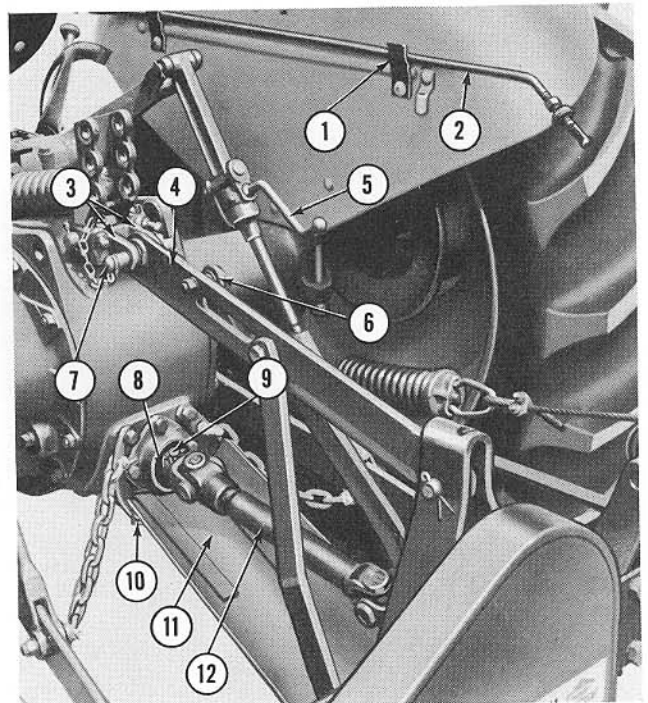
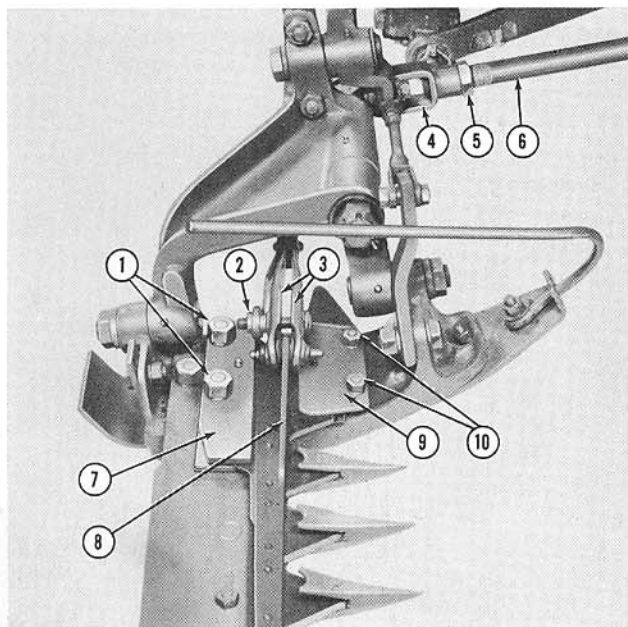

Figure 14
Figure 17
- a. From the tractor seat, grasp the mower top link (4), Figure 14, with the right hand and hold it forward.
- b. Align the forward end of the top link horizontally with the leveling rod crank (5), Figure 14, so it will fit between the lugs on the bracket (3).
- c. Raise the mower SLOWLY with the Hydraulic Touch Control Lever and guide the top link (4), Figure 14, into the bracket (3) with the right hand. Insert the pin (7) when the holes are aligned and secure with the linch pin provided on the tractor.
- d. Release the lock (6), Figure 14, from the top link anchor strap pin, lower the mower and shut off the tractor engine.
- a. Lower the right side of the mower main frame about one inch below horizontal with the tractor leveling crank (5), Figure 14.
- a. Insert the knife (8), Figure 17, under the guide plates (7) and (9) with the cutting edge forward as shown.
- b. Back the lock nut (2) off of the bolt sufficiently and snap the pitman clamp (3) over the knife head as shown.
- c. Tighten the lock nut (2) until snug, then back it off two notches.
28. Loosen the bolt (10), Figure 14, on each side of the tractor center housing. Raise the universal drive assembly (12), and position the guard (11) with the slotted straps under the two bolt heads as shown. Tighten the bolts (10), Figure 14, and lockwashers against the guard straps.
29. Start the tractor engine, engage the P.T.O. lever, raise the mower and lock it in transport position with the lock (6), Figure 14, over the anchor strap pin.
31. Remove the tractor P.T.O. cap and attach the splined end of the mower drive shaft (8), Figure 14, to the tractor P.T.O. shaft and secure with the pin (9) and cotter pin. Be sure that the universal joints are properly aligned, and that both splines are free from burrs and dirt.
33. Engage the tractor P.T.O. and place the transport rod (2), Figure 14, in the clips (1) as shown.
3. Detach the splined end of the drive shaft (8), Figure 14, from the tractor P.T.O. shaft. Replace the pin and cotter pin in the mower drive shaft and attach the P.T.O. cap to the tractor.